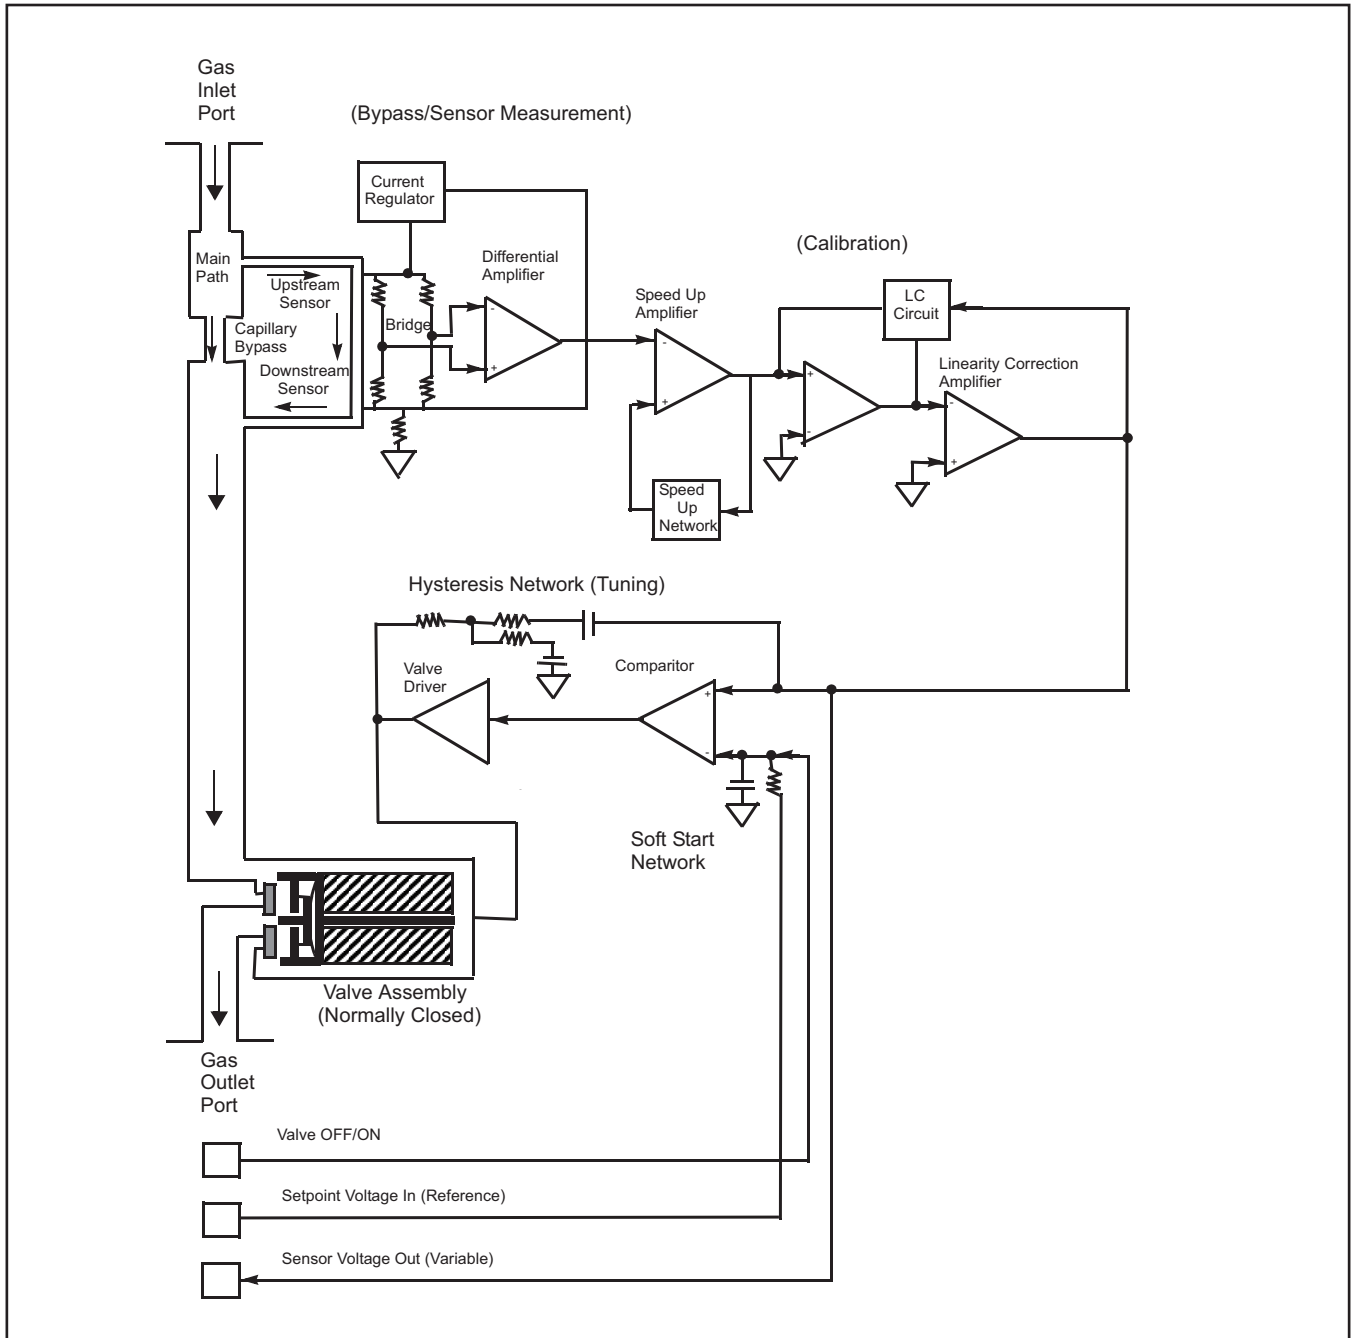

Figure 2-6 MFC Theory of Operation Block Diagram
PCB Assembly (5)	Electronic circuitry, which stores bypass/sensor information, and also provides the ability to fine tune the MFC in order to achieve proper flow and response times. Refer to Figure 2-1, MFC Components, above, and to Figure 2-6, MFC Theory of Operation Block Diagram, on p. <?> for details.
MFC theory of operation is described in greater detail in Figure 2-6, MFC Theory of Operation Block Diagram, below.